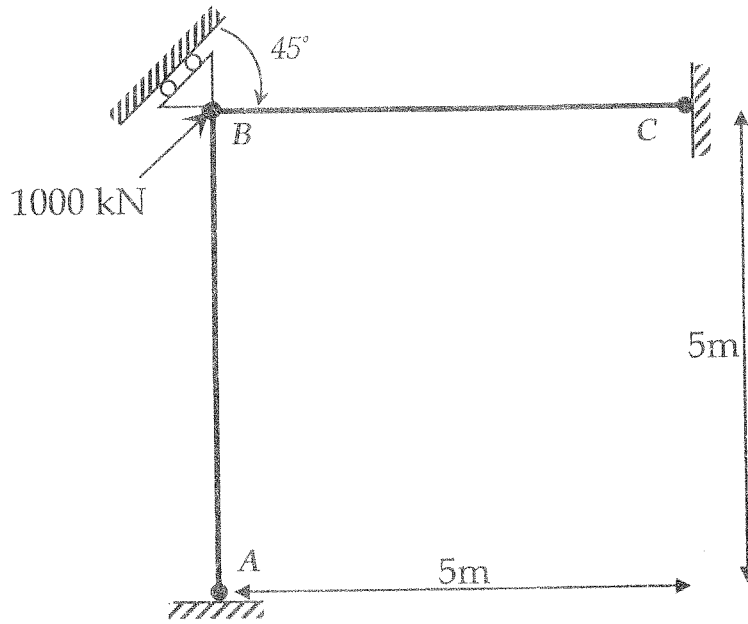

Fig. Q3
- Q3. Pin-jointed 2D truss is pinned support at Nodes A and C and roller support at Node B as shown in Fig Q3. The Young's modulus  $E = 200$  GPa and cross-section area  $A = 5 \times 10^{-4}$  m2 for both elements AB and BC. The truss system is subjected to a force 1000 kN at Node B, as shown in Fig Q3.